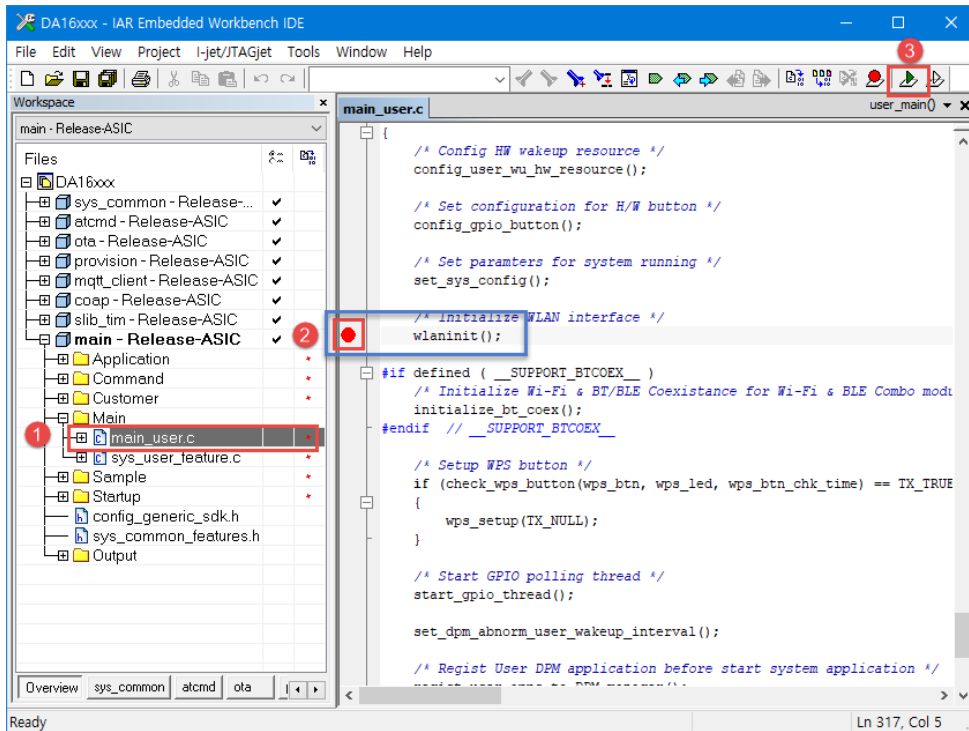

Figure 34: Download and Debug
- Set up a breakpoint (1~2), and then click **Download and Debug** (3). See Figure 34.